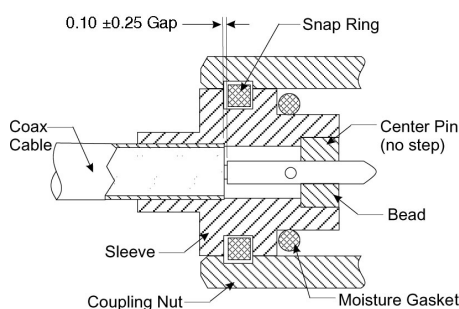

Figure 2. Male K Connector, Assembled
- k. Slide the sleeve assembly onto the cable until it reaches the bottom limit of the sleeve. When properly positioned, the center pin will protrude as shown in Figure 2, and the sleeve will cover approximately 4.76 mm of the cable. Check pin extension.
- (1) That the support bead is flush with or slightly recessed from the end of the sleeve assembly.
- (2) That the center pin extends out from the bead as shown in Figure 2. For best performance, purge residue solvent by placing the completed cable assembly in an oven and baking at 65°C for 8 hours, minimum.